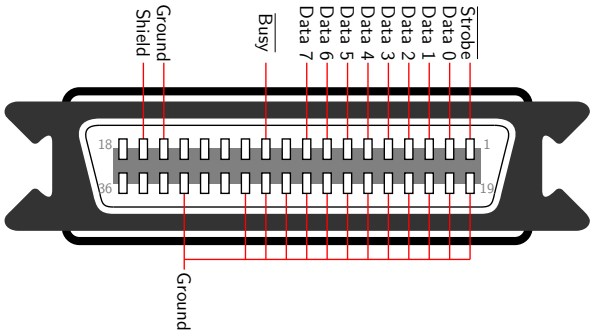

Figure 4.3: Centronics male connector (solder side).
1. Solder the pins of the male Centronics connector as shown in Figure 4.3. Note that the pin numbers shown in the diagram are for the solder side of the connector.